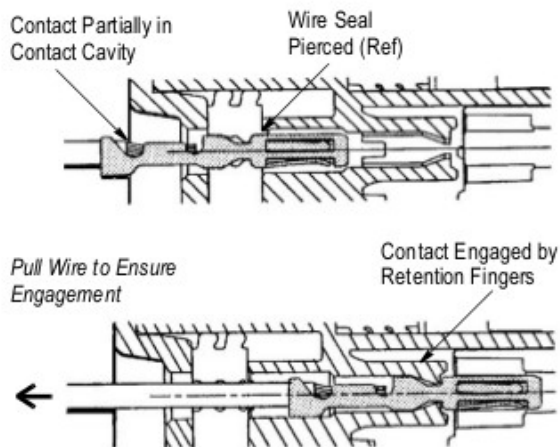

Figure 2
3. From the wire size of the plug assembly, align the contact with the applicable contact cavity, then insert the contact until there is an audible or tactile click. Refer to Figure 2. DO NOT force the contact. If the contact is difficult to insert, check that the red wedge lock is fully open.
4. Pull wire slightly (force between 4 and 9 N [1 and 2 in.-lbs]) to ensure that the contact has engaged the retention fingers of the contact cavity. See Figure 2.